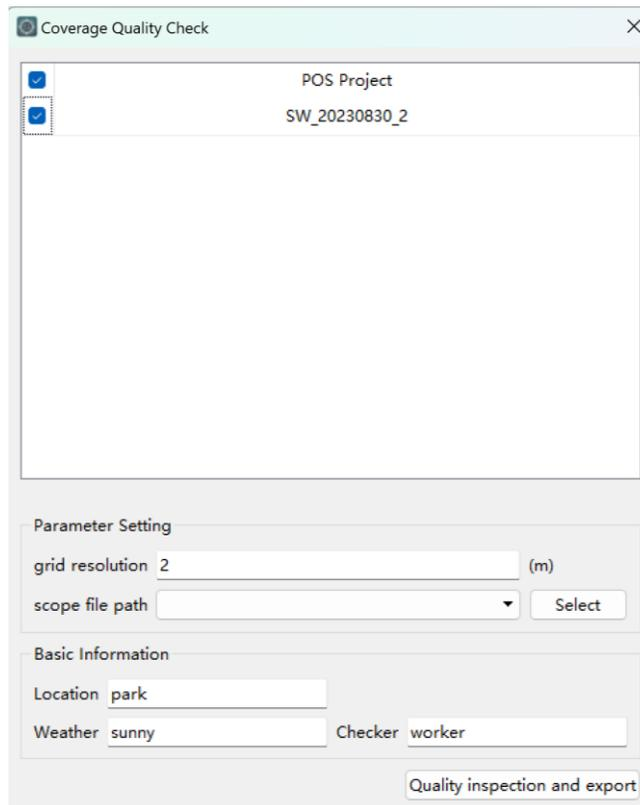

Figure 3-94 Point cloud range check dialog
2. Click <Solve> → <Quality Check> → <Coverage Quality Check> in the main interface to pop up the dialog box (Figure 3-94).